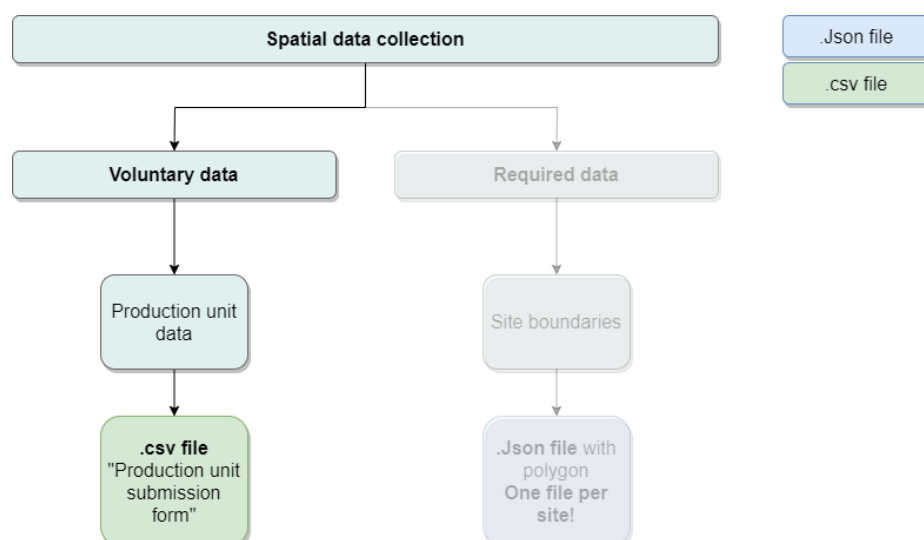

Figure 7 - Flowchart of voluntary data to submit to ASC.
**In case you do not have internet access at the site *during the audit*, but you did collect data with the ASC Online Farm Mapping Tool, please make sure you provide a screenshot to the auditor of the farm site polygon that you have created. If the auditor confirms everything is in order, you can send the required files (See *Figure 7*) later, when you have access to internet, as long as it is submitted to ASC before the draft audit report appears online for public consultation.**
The ASC Online Farm Mapping Tool allows you to create points on high-resolution satellite imagery. You can take advantage of this by mapping out all certified production units. These can then be transferred to a form to complete data about each production unit (see Figure 7).